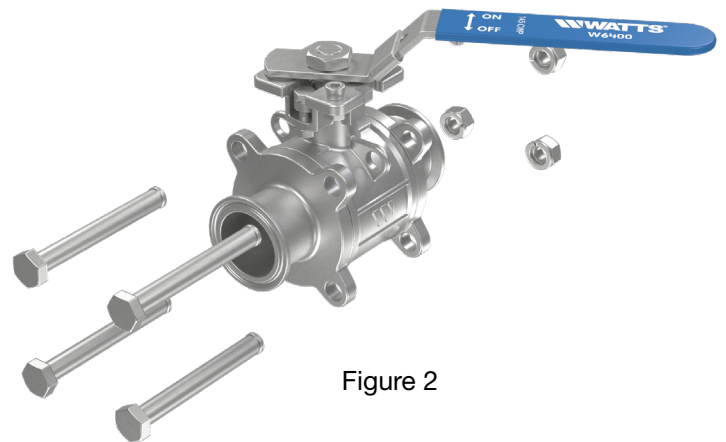

Figure 2
2. With the valve in the half-open position, remove the connecting bolts. (Figure 2)